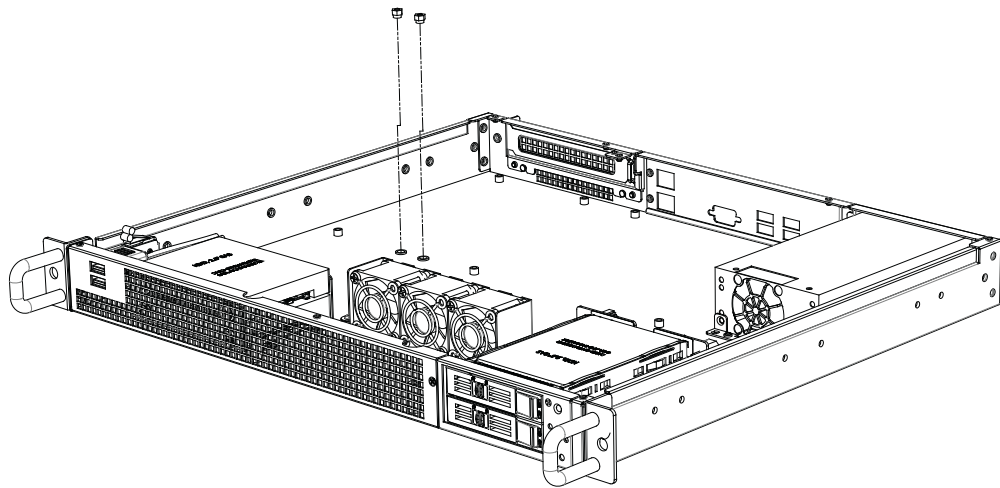

Figure 2.3 Fastening the stub copper / 固定铜柱 / 固定銅柱
1. A yellow label is located on the top cover. (see Figure 2.2) It shows the stub copper location for attaching the specific ATX/MicroATX/Mini-ITX motherboard. Users can find the stub copper in the accessory box (see Figure 2.3). Lock the stub copper into the correct location and then rotate counterclockwise to fasten it onto the chassis.